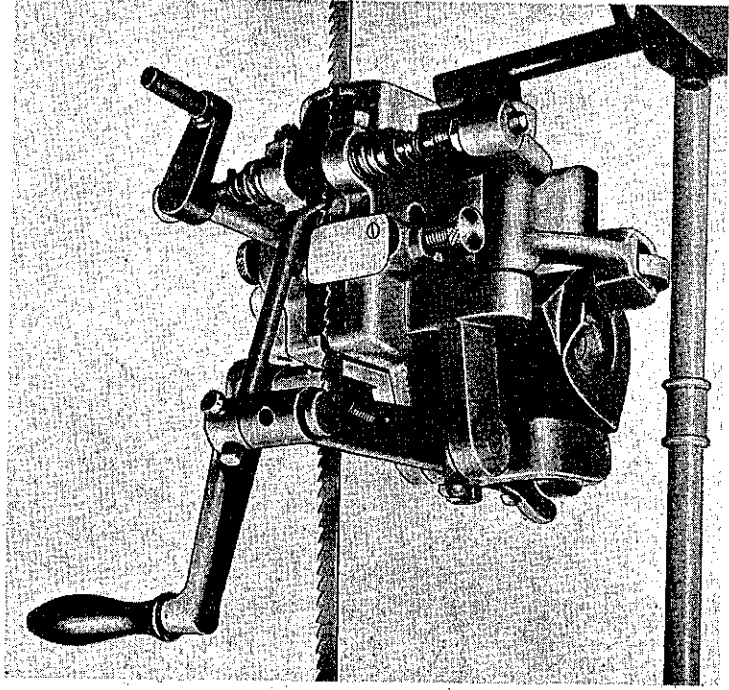

FIG. 12
- (1) The use of a hand setting tool of the plier type.
- (2) Machine setting. A setting attachment can be supplied to special order for fitting to the standard filling machine as shown in Fig. 12. Also recommended is the separate inexpensive setting machine as described on page 16. A feature of this machine is that the strikers which push the teeth over, are arranged on opposite sides of the blade, and strike adjacent teeth simultaneously. In this way the shock of the two strikers cancel each other out, and does not damage the body of the band ribbon.
A setting attachment can be supplied to special order for fitting to the machine as shown in Fig. 12. Band saws of any length up to 2" wide and $\frac{8}{8}$ " pitch can be set using the attachment.